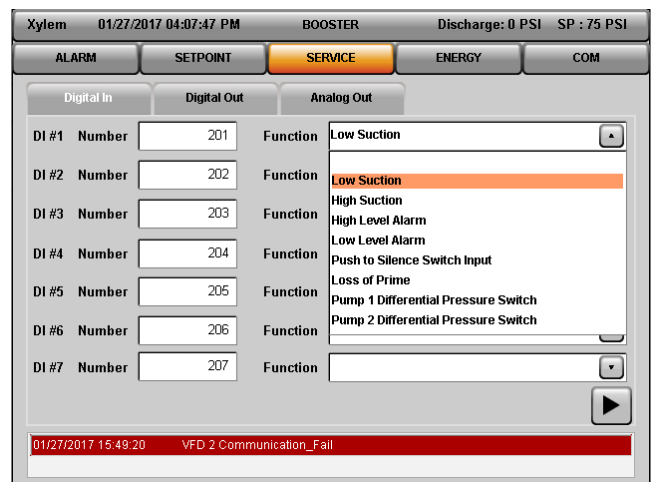
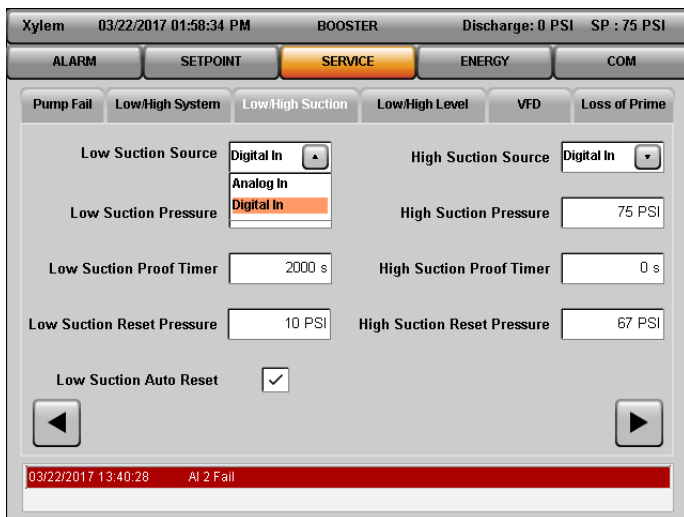

Figure 5.5.18 – Optional DI
Figure 5.5.19 – Low/High Suction Alarm Configured as DI
Screen for optional [Digital In] is shown in Figure 5.5.18. On left hand side, there are numbers from 201 to 207. These are terminal numbers. Select the desired function against the terminal number wired in control panel. Refer to control wiring diagram for wiring details.
1. **Low Suction** – DI can be configured for optional low suction switch under function as shown in Figure 5.5.18. Also, it is required to select low Suction Source as Digital Input in Section [Low/High Suction] under [Alarm Setup] in order to activate low suction protection based on low suction switch, as shown in Figure 5.5.19. Low suction alarm will get detected on active high signal.
2. **High Suction** – DI can be configured for optional high suction switch under function as shown in Figure 5.5.18. Also, it is required to select High Suction Source as Digital Input in section [Low/High Suction] under [Alarm Setup] in order to activate high suction protection based on high suction switch, as shown in Figure 5.5.19. High suction alarm will get detected on active high signal.
3. **High Level Alarm** – DI can be configured for optional high level switch under function as shown in Figure 5.5.18. High level alarm will get detected on active high signal.
4. **Low Level Alarm** – DI can be configured for optional low level switch under function as shown in Figure 5.5.18. Low level alarm will get detected on active high signal.
5. **Push to Silence Switch Input** – DI can be configured for optional Push to Silence Switch under function as shown in Figure 5.5.18. This optional DI can be used to Silence horn by forcing optional DO alarm output signal to low.
6. **Loss of Prime** – DI can be configured for optional Loss of Prime switch under function as shown in Figure 5.5.18. Loss of Prime alarm will get detected on active high signal.
7. **Pump X Differential Pressure Switch** – Differential pressure switch can be configured as optional DI for the desired pump as shown in Figure 5.5.18. NOTE: X is the Pump number.